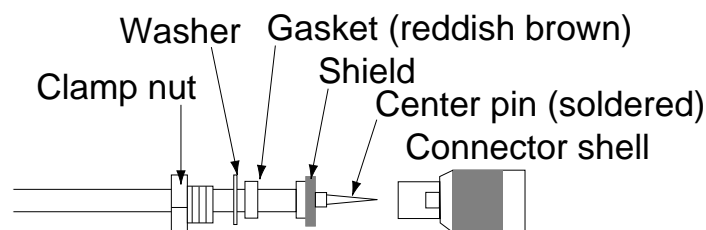

Figure 1-4 How to assemble the connector
- If the antenna cable is to be passed through a hole which is not large enough to pass the connector, you may unfasten the connector with a needle nose pliers and 3/8-inch open-end wrench. Refasten it as shown in Figure 1-4 after running the cable through the hole.